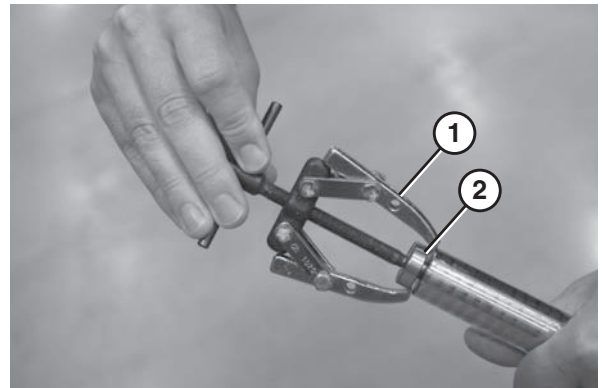

Figure 92
3. Using a bearing removal tool (**Figure 92, item 1**) remove the bearing (**Figure 92, item 2**).